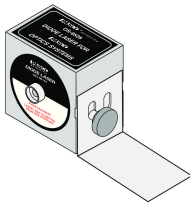

Figure 5: Laser with bracket
1. If the laser is not already on its L-shaped bracket, mount it with the bracket bent away from the laser (Figure 5).